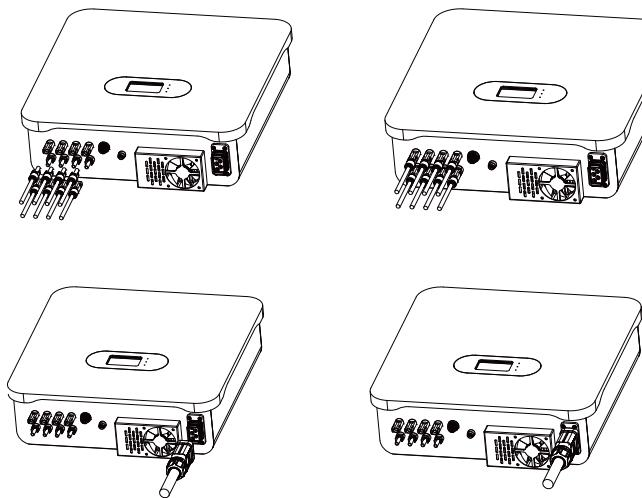

Fig.7-1
- 5) Press the right position of the terminal as Fig.7-1, when you hear a "click", then you can pull out the positive and negative DC terminal adaptor as Fig.7-2.